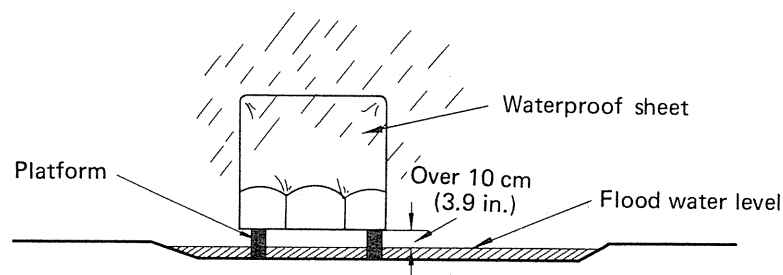

Fig. 19 Good storing conditions where the packages are covered with waterproof sheets and placed on a platform to protect them against floods.
- Store the packages in a building if at all possible. If there is danger of rain leaking into the building or floods, cover the packages with waterproof sheets and place them on a suitable platform which is about 10 cm higher than the anticipated flood water level (see Fig. 19).